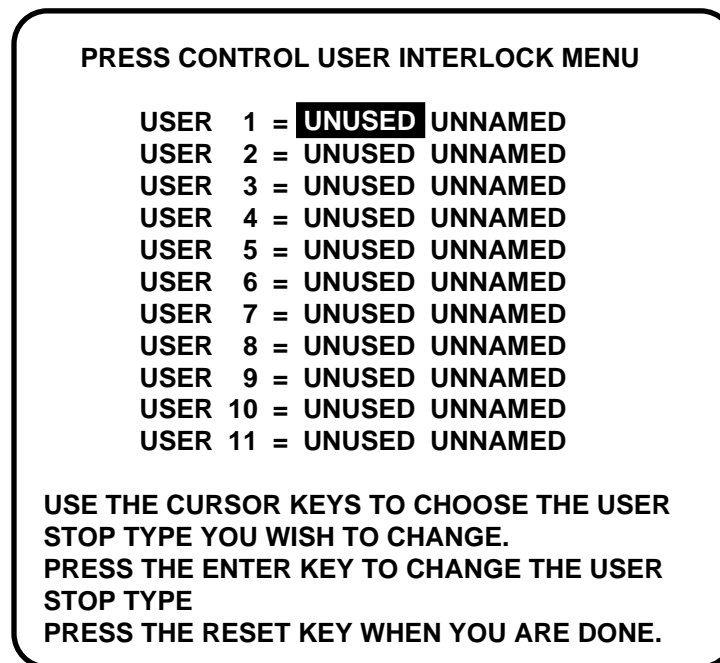

Figure 4-19. "User Interlocks" display
5. You are now returned to the "User Interlocks" display (Figure 4-19). Use the cursor keys to position the highlight bar on USER 2's "ESTOP."